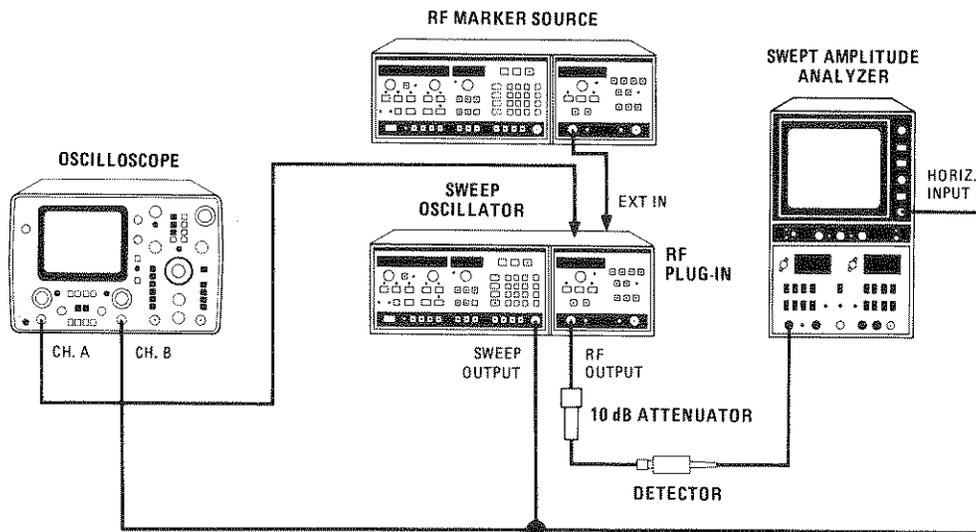

Figure 5-44. External Marker Adjustments Test Setup
1. Connect equipment as shown in Figure 5-44. Set external marker source to a selected marker frequency. Set power level between  $-10$  and  $+10$  dBm.